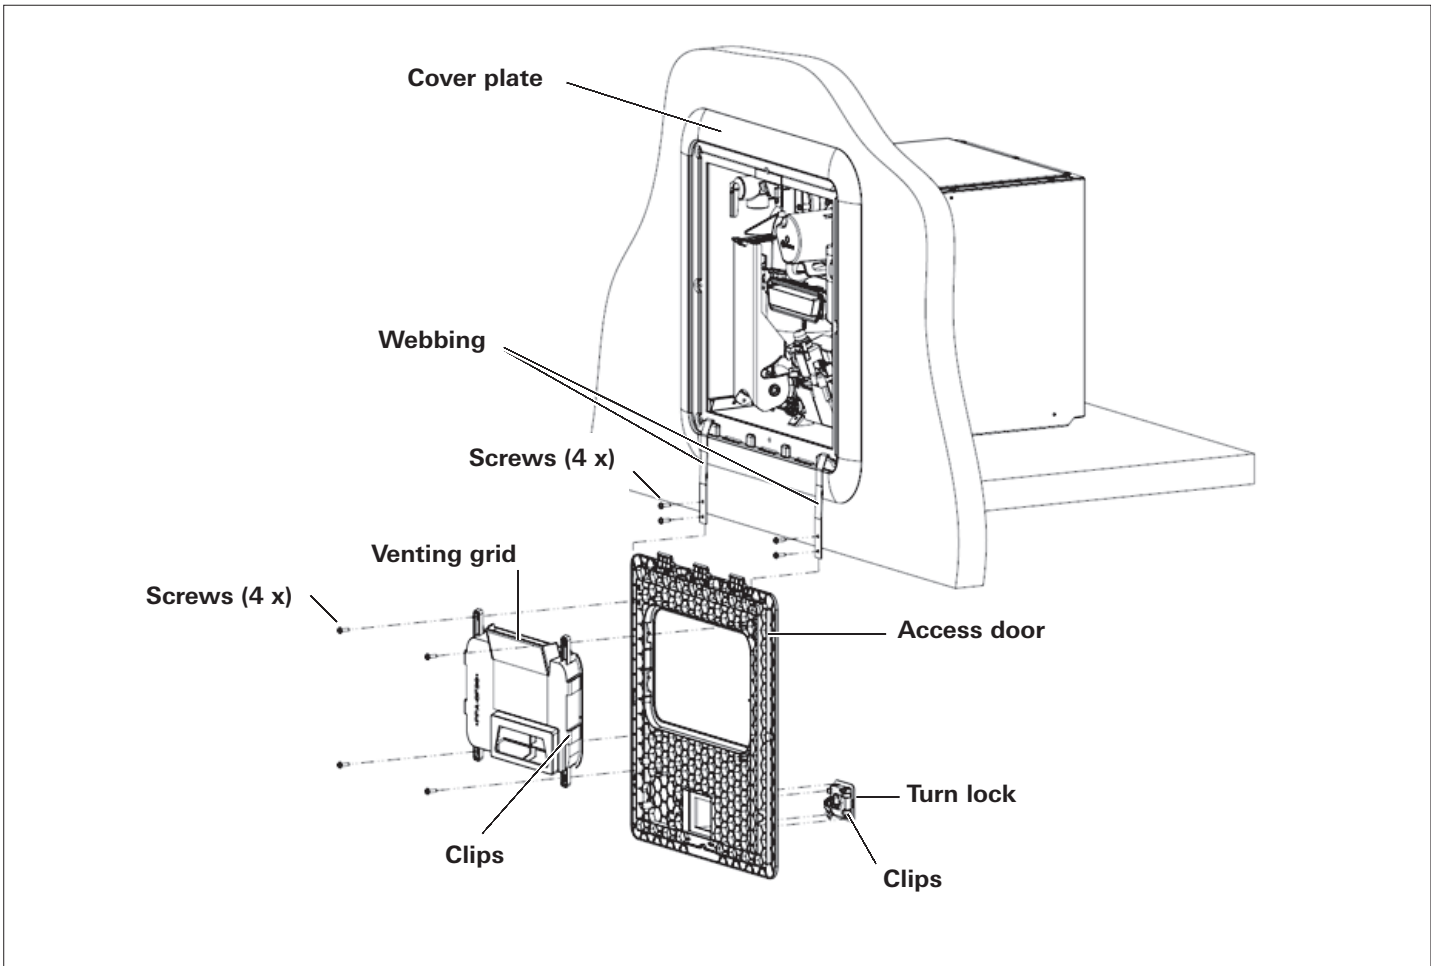

Fig. 1
#### **The following parts (see Figure 1) must not be painted:**
- After removing the screws, depress the four (4) clips on the side of the venting grid and remove it as shown in Fig. 1.
To remove the turn lock, depress the four (4) clips and remove it as shown in Fig. 1.